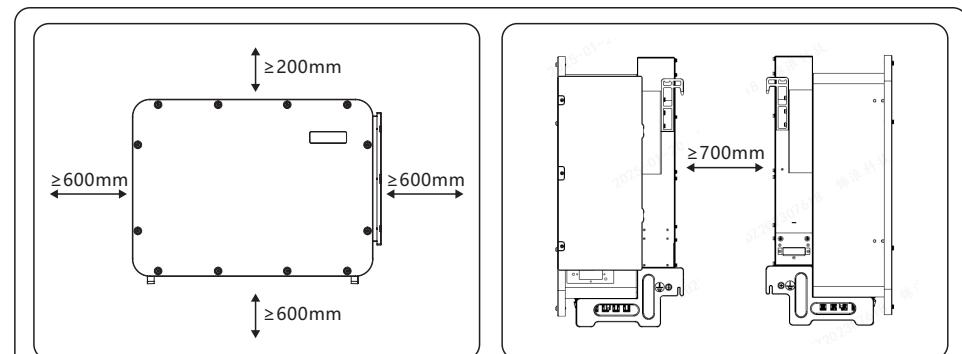

Figure 3.1 Distances required between inverters
- If multiple inverters are installed on site, a minimum clearance of 600mm should be kept between each inverter and all other mounted equipment. The bottom of the inverter should be at least 600mm above of the ground or floor (see Figure 3.1).